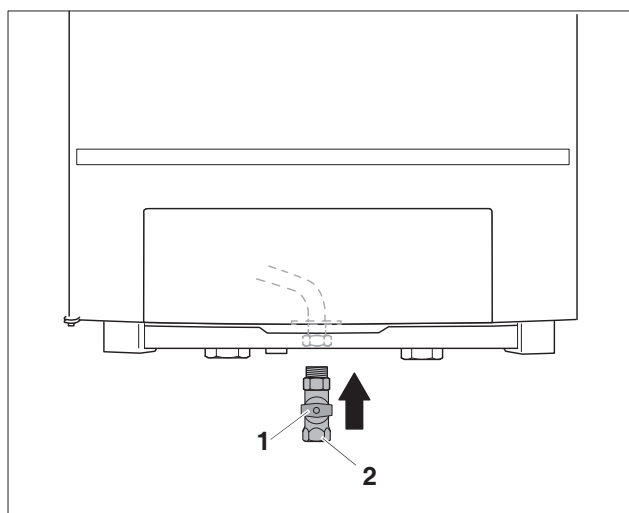

fig. 13 Making the gas connection
- Install the gas valve (fig. 13, **item 1**) onto the gas pipe. Use a gas valve with a minimum diameter of 1".
- Connect the main gas pipe to the gas connection (fig. 13, **item 2**) making sure it is not under stress. Use a gas pipe of at least Ø22 mm.